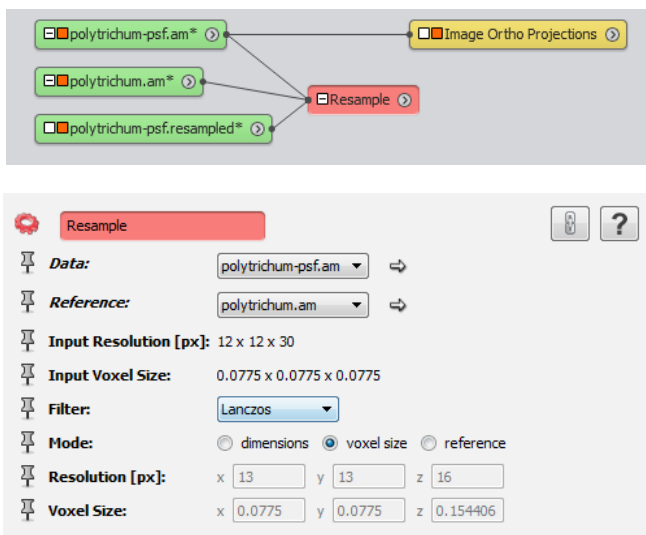

Figure 3.42: Maximum intensity projection of *polytrichum-psf.am*
- In the *Mode* port of the *Resample* module, choose *voxel size* (see Figure 3.42).